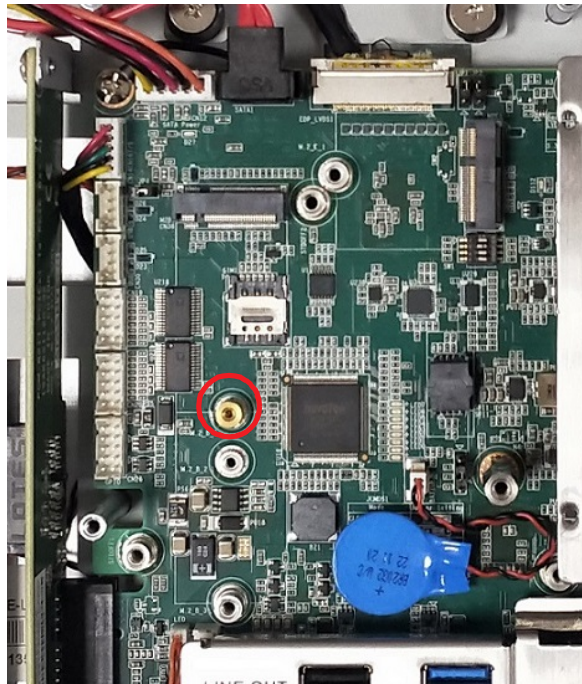

Figure 2.15
4. To install a 22 x 42 mm M.2 card, use the copper cylinder screw provided in the accessory box (refer to Fig. 2.15). Next, insert the M.2 card into the appropriate slot on the mainboard and secure it in place with an M2.5 x 3L screw.